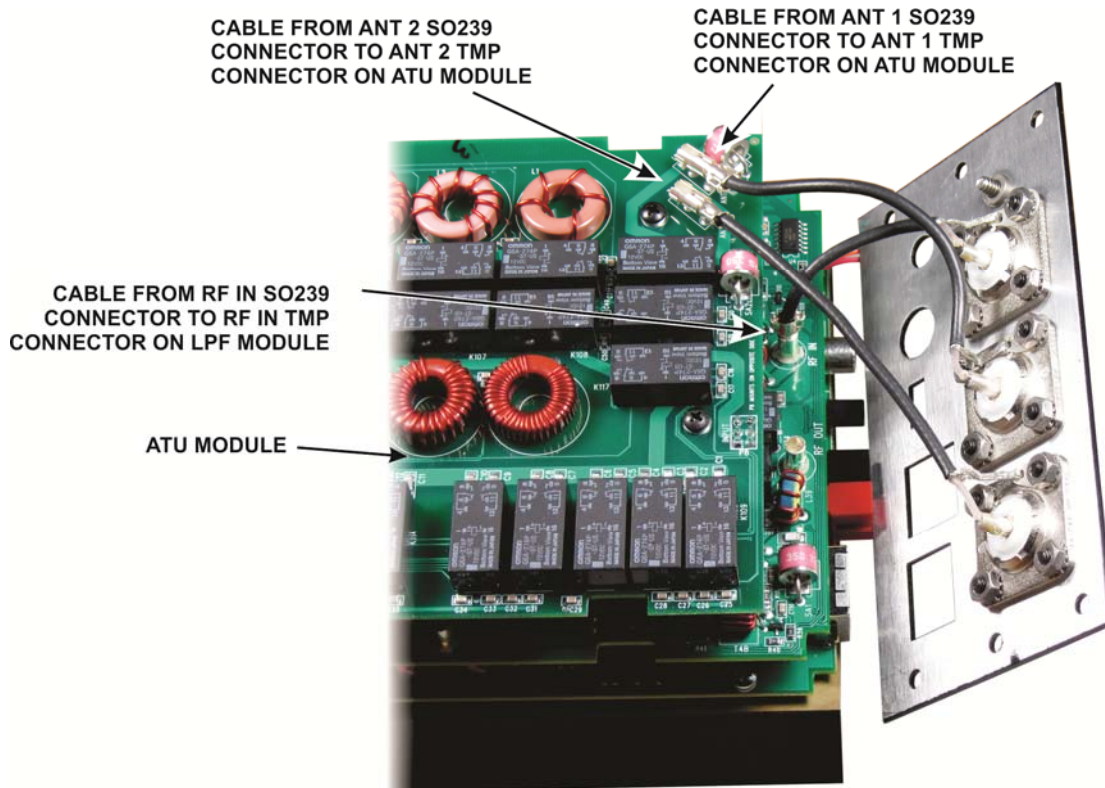

Figure 13. Connecting the Rear Panel Cables with ATU Installed.
- If you have the optional KXAT3 ATU, see Figure 13.